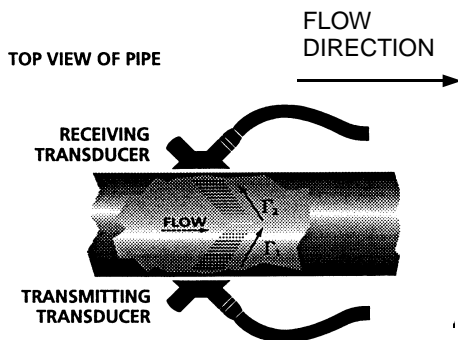

Figure 7
4. Place each transducer under the strap with the flat face positioned towards the pipe. The notch on the back of the transducer will provide a mounting surface for the strap. The transducer cables must be facing in the same direction for proper operation. See **Figure 7**. NOTE: Large pipes may require two people for this procedure.